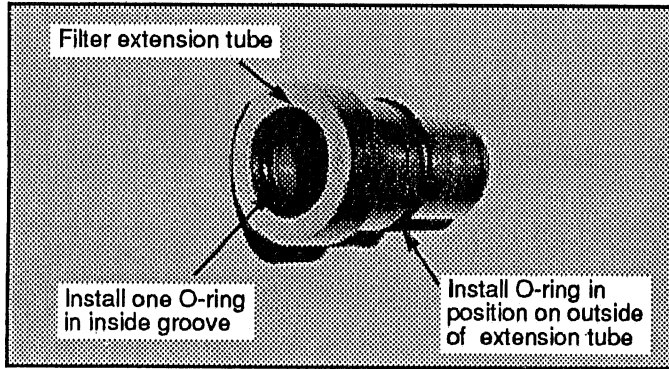

Figure 3
STEP 4. Install two O-rings in position on the filter extension tube supplied with the kit. One of the O-rings fits on the end of the tube against the shoulder. The other O-ring fits in groove inside the large diameter. (See Fig. 3)